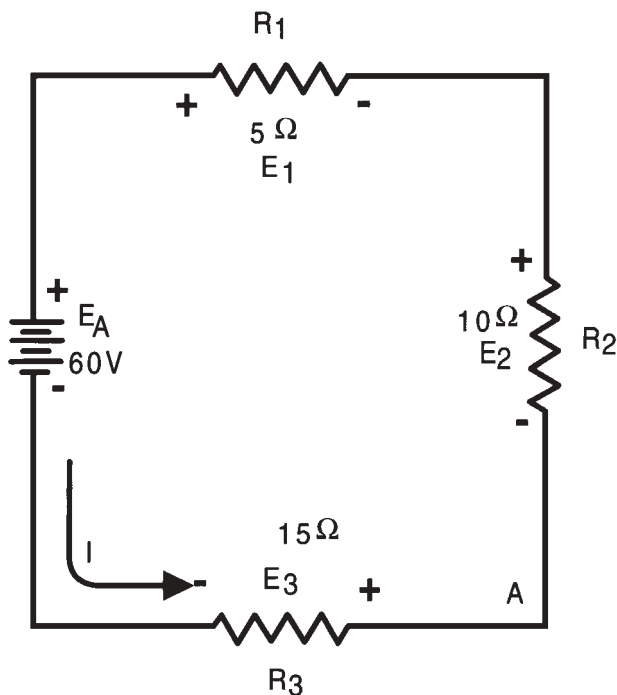

Figure 10.32 Correct direction of assumed current.
1. Draw and label the circuit as shown in Fig. 10.32.